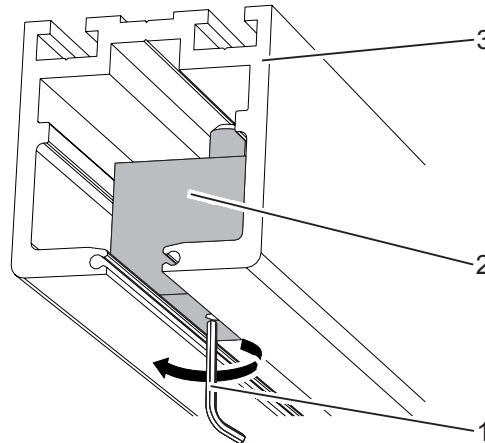

Fig. 9: Fastening the end stop
6. Fasten the end stop (Fig. 9/2) in the track (Fig. 9/3) using a socket head wrench (Fig. 9/1).